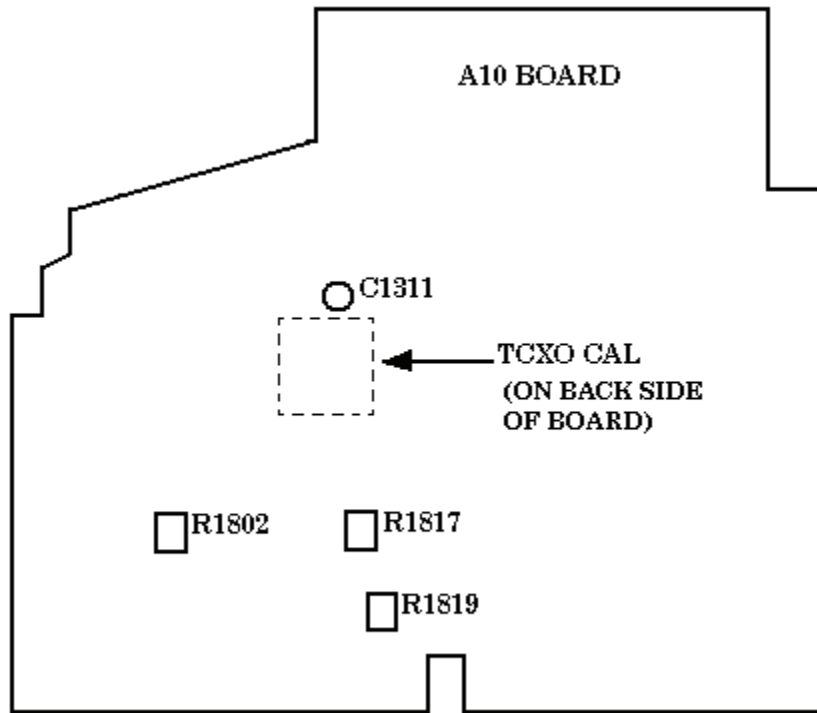
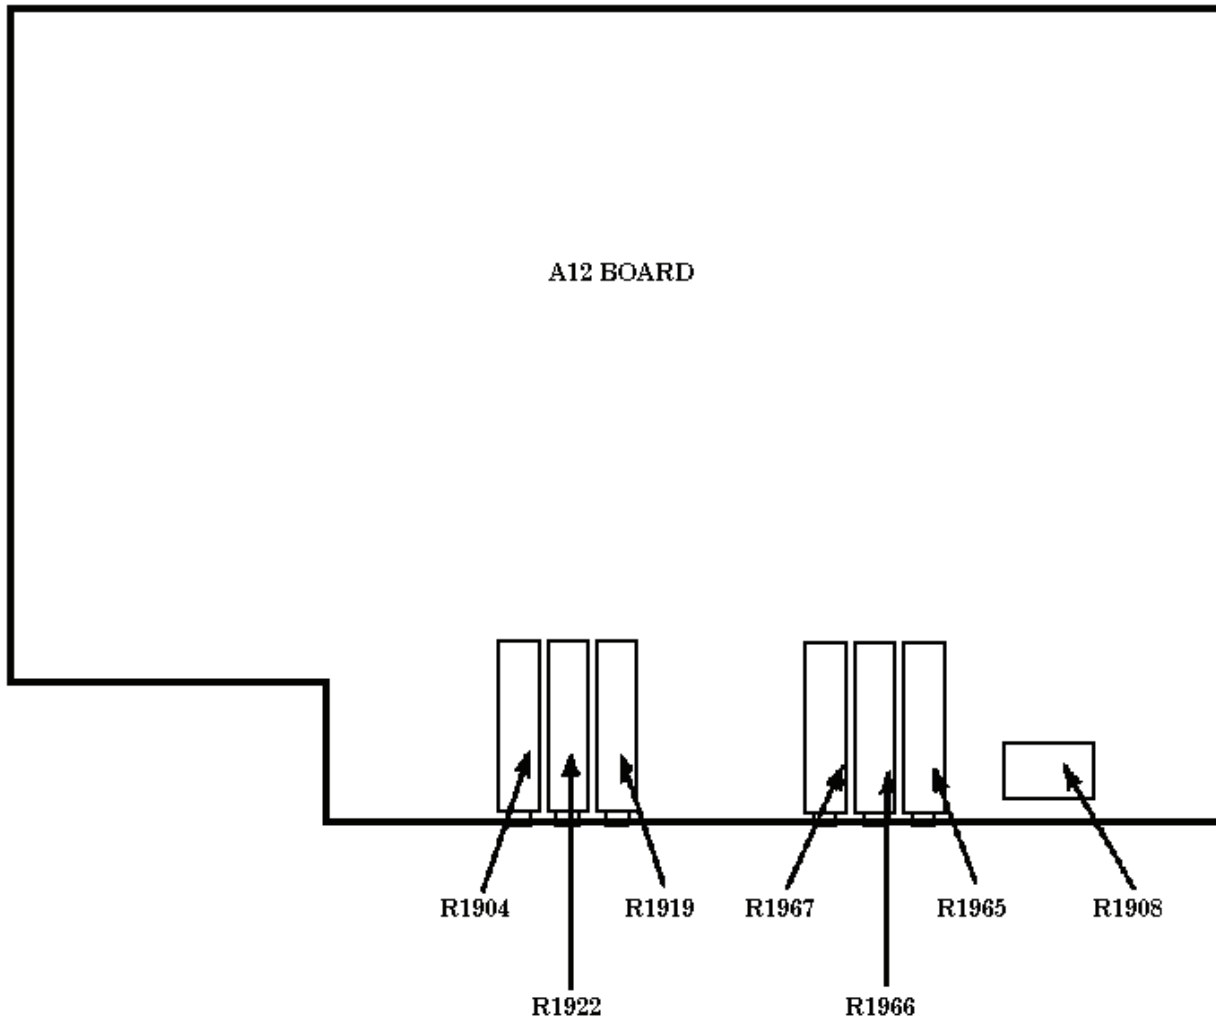

Figure 3. CTM adjustment locations.
Figure 4. A12 board adjustment locations.
- (1) Set all outputs to minimum and disconnect equipment setup.
- (2) Press TI **UPPER FUNCTIONS IN LOWER FUNCTIONS OUT** pushbutton to the **IN** position.
- (3) Press TI **PER** pushbutton.
- (4) Connect time frequency workstation **J6** output (rear panel) to TI **CH 1** input.
- (5) Set time frequency workstation for a 1 MHz output.
- (6) Adjust C1311 (2236/2236A) (fig. 3) or TCXO CAL (Option 14) (fig. 3) for a TI indication of 1.00000 μ s.
- (7) Press TI **FREQ** pushbutton.
- (8) Adjust C1311 (2236/2236A) (fig. 3) for a TI indication between 999.9991 kHz and 999.9999 kHz or adjust TCXO CAL (Option 14) (fig. 3) for a TI indication of 1.000000 MHz.
- (9) Disconnect time frequency workstation **J6** output (rear panel) from TI **CH 1** input.
- (10) Set TI **HORIZONTAL MODE A ALT B** switch to **A**.
- (11) Press TI **DCV** pushbutton.
- (12) Rotate R1819 (fig. 3) to fully ccw position.
- (13) Connect a short between TI **MULTIMETER INPUTS**.
- (14) Adjust R1817 (fig. 3) for a TI indication of .0000 V.
- (15) Remove short from TI **MULTIMETER INPUTS**.
- (16) Adjust R1819 (fig. 3) for a TI indication of .0000 V.
- (17) Repeat technique of (13) through (16) above until no further improvement is noticed.
- (18) Connect calibrator **OUTPUT** terminals to TI **MULTIMETER INPUTS**.
- (19) Set calibrator for a DC output of 400 mV.
- (20) Adjust R1919 (fig 4) for a TI indication of .4000 V (R).
- (21) Set calibrator for a DC output of -400 mV.
- (22) Check TI reading is between -.3999 and -.4001.
- (23) Set calibrator output to minimum.
- (24) Press TI **UPPER FUNCTIONS IN LOWER FUNCTIONS OUT** pushbutton to the **OUT** position.
- (25) Press TI **AC RMSV** pushbutton.
- (26) Rotate R1908 (fig. 4) to fully cw position.
- (27) Connect a short between TI **MULTIMETER INPUTS**.
- (28) Adjust R1908 (fig. 4) until TI last digit is 0 and does not toggle between 0 and 1.
- (29) Remove short from TI **MULTIMETER INPUTS**.
- (30) Connect calibrator **OUTPUT** terminals to TI **MULTIMETER INPUTS**.